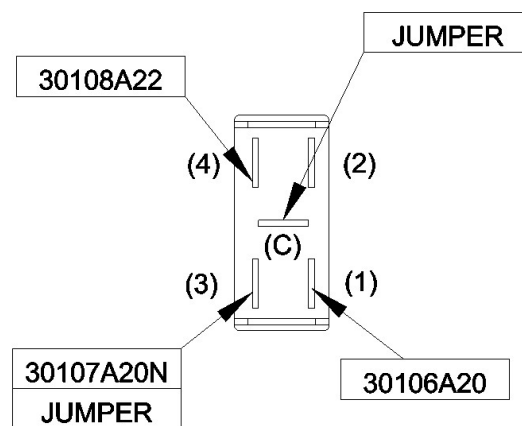

Figure 17: PITOT HEAT Rocker Switch Connections
11.2.3.3 Connect wires 30108A22, 30106A20, 30107A20N/JUMPER and JUMPER to the PITOT HEAT Rocker Switch, as shown in Figure 17.